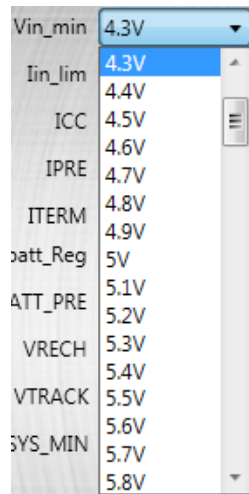

Figure 6: Input Voltage Regulation Threshold Setting
- Set the input voltage regulation threshold (see Figure 6). The input voltage regulation threshold ranges between 3.7V and 15.2V, and the default value is 4.3V. Set this value according to the V_{BATT_REG} setting. For example, if V_{BATT_REG} is set to 4.35V, it is recommended to set the input voltage regulation threshold to 4.6V or higher.